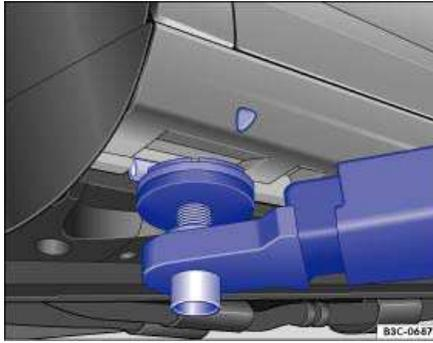
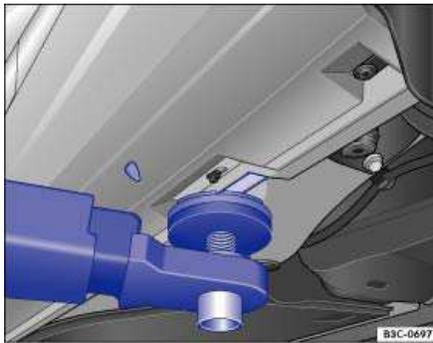

Fig. 173 Front lift point for workshop hoist or floor jack.
Fig. 174 Rear lift point for workshop hoist or floor jack.
The vehicle may only be raised at the lift points shown in illustrations ⇒ fig. 173 and ⇒ fig. 174. If the vehicle is lifted at different points, vehicle damage ⇒ ⚠ and serious injuries may occur ⇒ ⚠.
- Always lift your vehicle only at the designated lift points shown in the illustrations ⇒ fig. 173 and ⇒ fig. 174. Not using the designated lift points can cause the vehicle to fall off the floor jack when heavy parts such as the engine or transmission are removed.